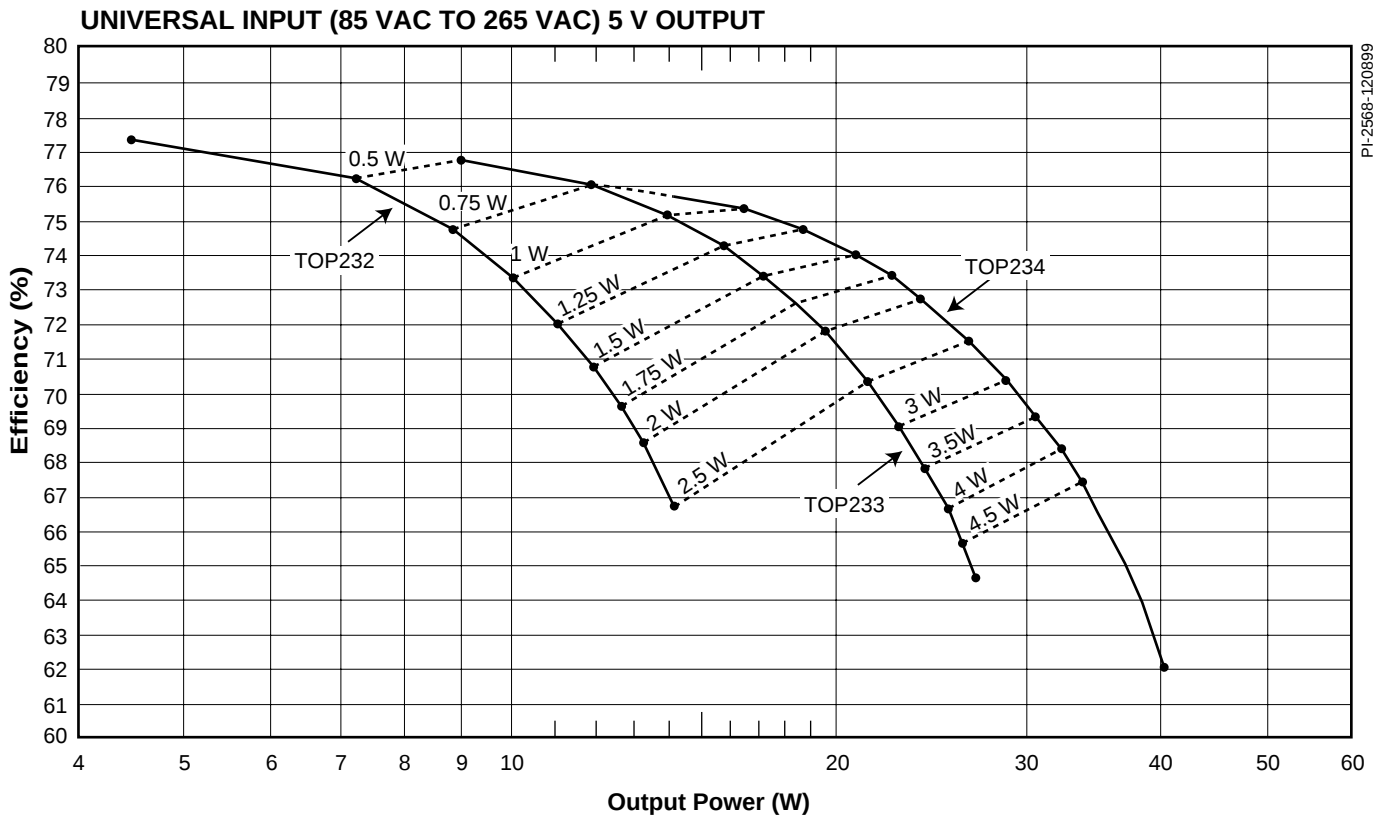

Figure 2. Efficiency vs. Output Power with Contours of Constant TOPSwitch-FX Power Loss for Universal Input and 5 V Output.
Consider a 5 V, 30 W power supply with Universal input range. From the curves in Figure 2, we can see that the TOP234 can deliver 30 W (X-axis) with an estimated Efficiency (Y-axis) of about 69.5%. The projected **TOPSwitch-FX** dissipation is approximately 3.3 W. The thermal environment and the available heatsinking must be evaluated to confirm the choice of device in this application.
- For low voltage outputs, the secondary currents and their associated losses can become significant. Close attention must be paid to the Equivalent Series Resistance (ESR) of the output capacitor in particular. The values in Tables 1 and 2 for the 5 V Quick Selection Curves (Figures 2 and 4) use a capacitor with very low ESR.